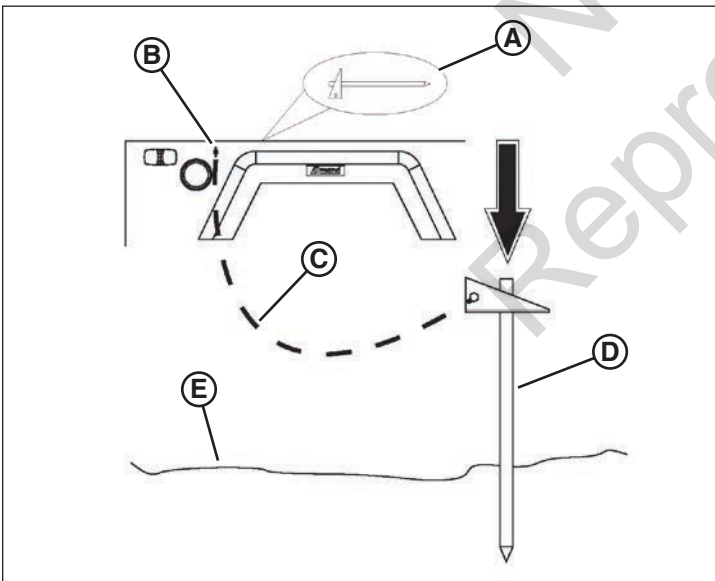

Figure 20
Remove the ground rod (D, Figure 20) from the storage location inside the left panel (A). Drive the ground rod fully into the ground (E) using a hammer. Attach the supplied cable (C) to the rod, then attach the cable to the ground lug (B) on the unit. Make sure the cable connections are tightened.